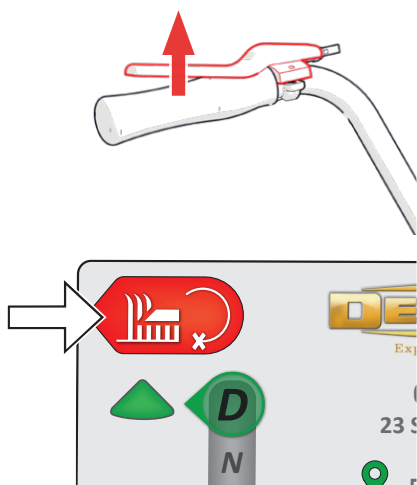

Fig. 15E - Stop the cylinder motor
8. To stop the cassette motor, release the OPC or press 'Cutter start / stop'. Releasing the OPC will also stop the drive motor (Fig. 15E).